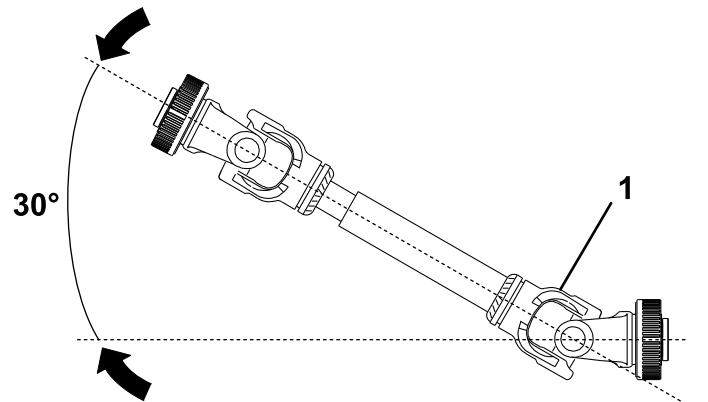

Figure 17
**Important:** When connecting the PTO, ensure that the attachment is not lifted higher than necessary. Lifting the attachment too high causes the PTO driveshaft knuckles to break (Figure 17).
**Note:** Ensure the cross bearings are aligned as shown in Figure 17.